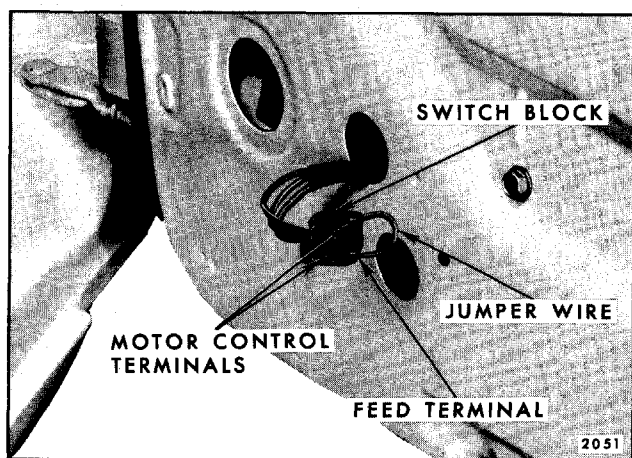

Fig. 10-10-Checking Window Control Switch
1. Insert one end of a no. 12 gauge jumper wire to the switch feed terminal and the other end to one of the motor lead terminals in the switch block. Repeat this check on the remaining motor lead terminal (Fig. 10-10).
2. Insert one end of a no. 12 gauge jumper wire to the switch feed terminal and the other end to one of the motor lead terminals in the switch block (Fig. 10-10).
1. Insert one end of a No. 12 gauge jumper wire in the switch feed terminal and the other end in one of the motor lead terminals of the switch block (Fig. 10-10).